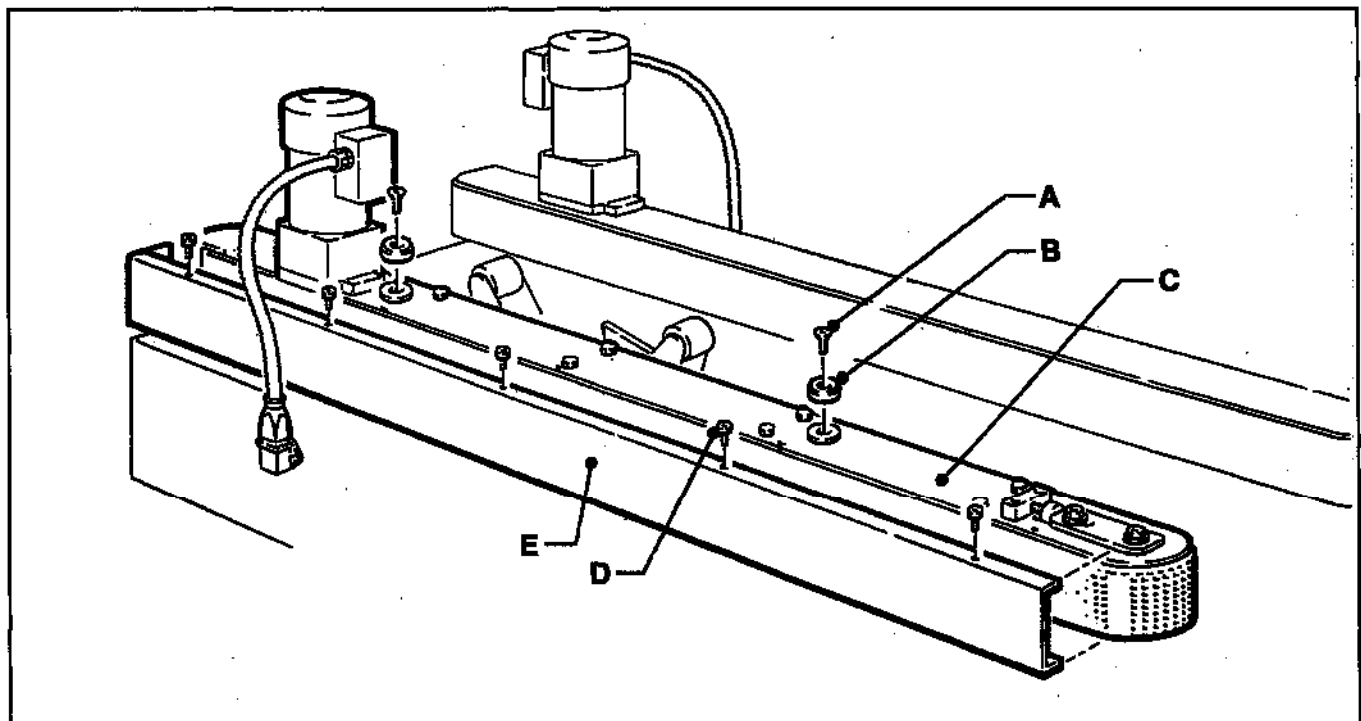

Figure 4-4 – Drive Belt, Upper
2. Remove screw (A) and special washer (B) from front and rear arm assembly pivots. Figure 4-4.
3. Lift belt drive assembly (C) up off pivots and place on 100-150 mm [4-6 in] blocks on machine bed.
4. Remove five screws (D) and side cover (E) from drive assembly. Figure 4-4.